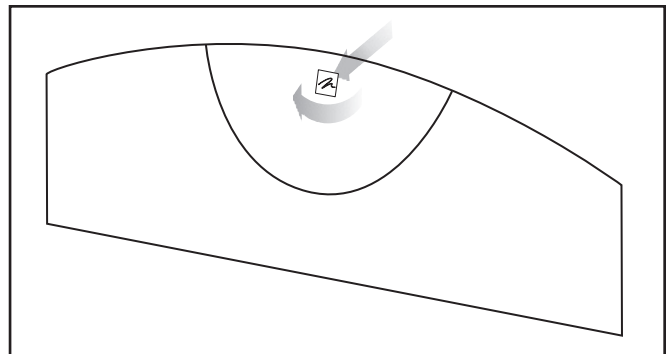

**Figure 23.** Install the Vignette and the washers and cap nuts.
- 9 Place the Vignette onto the wall bracket and carefully slide the Vignette into place (see figure 23).
- 10 Using a 6mm Allen tool, attach a washer and cap nut onto each pin. Do not fully tighten the cap nuts (see figure 23).